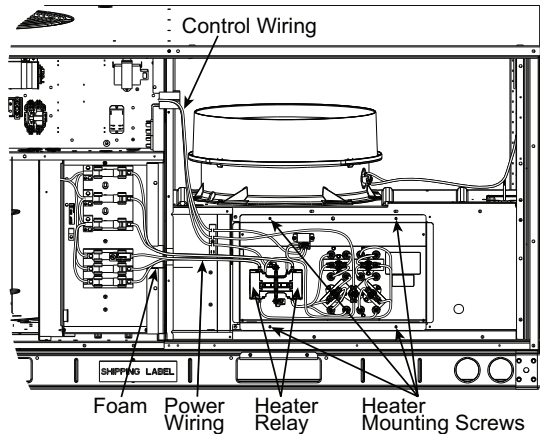
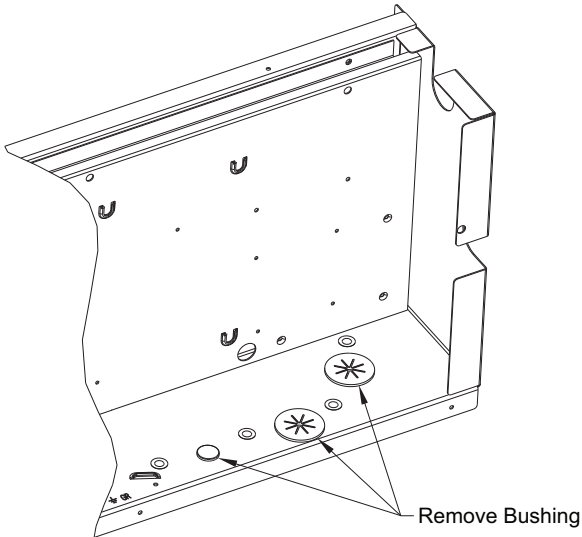
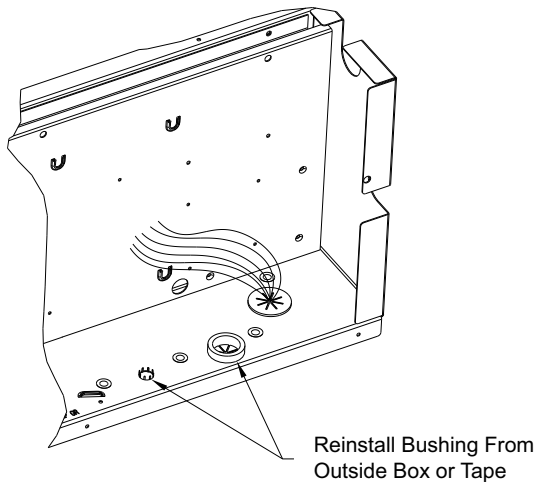

Fig. 3 — Typical Single Point Kit Installation
Fig. 7 — Control Box - Bushings to Remove
Fig. 8 — Bushings Replaced from Outside Control Box
6. Install the electric heater module and connect heater power conductors to single point box or main unit control box per appropriate connections figure. (See Appendix A on page 11.) See Fig. 3 for typical installation.
- All bushings in the area of the control box where the single point box (SPB) mounts, must be removed prior to securing the SPB to the control box. (See Fig. 7.) Also, for units installed in the snow belt, all unplugged holes in the bottom of the control box which are not used must be plugged before installing the SPB. Use foil tape or reinstall the bushings from the outside of the control box prior to securing the SPB. (See Fig. 8.)
- Remove the single point box cover. Secure single point box to the underside of the control box with the 2 screws provided. (See Fig. 3.) Re-install bushing on the SPB tap conductors. (See Fig. 8.)
4. Route power wires from heater module through the foam bushing in the center partition and into the single point box. (See Fig. 3.) Connect to terminal block or fuse blocks per schematics in Appendix A or B. See Tables at beginning of each Appendix to identify the appropriate figure.